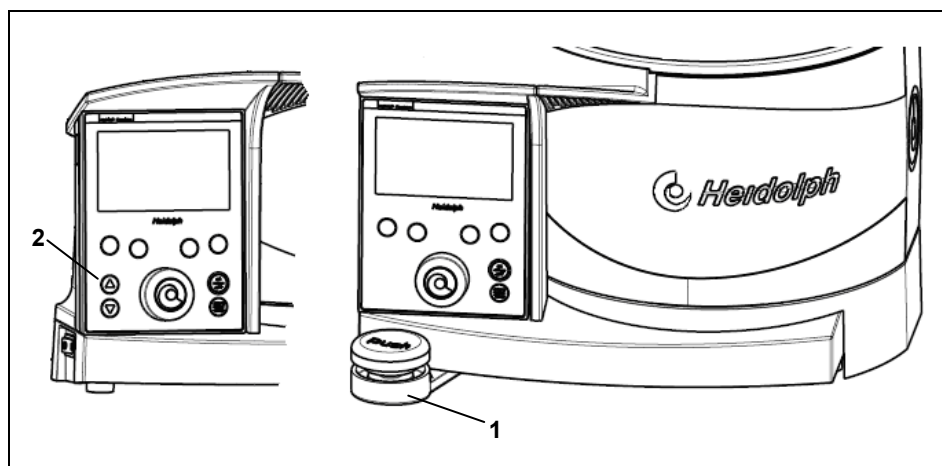

Figure 4-5: Hand/motor lift
- ➔ Press the respective arrow key (up/down) (see Figure 4-5 (2)) and release the push-button at the desired position of the drive unit.